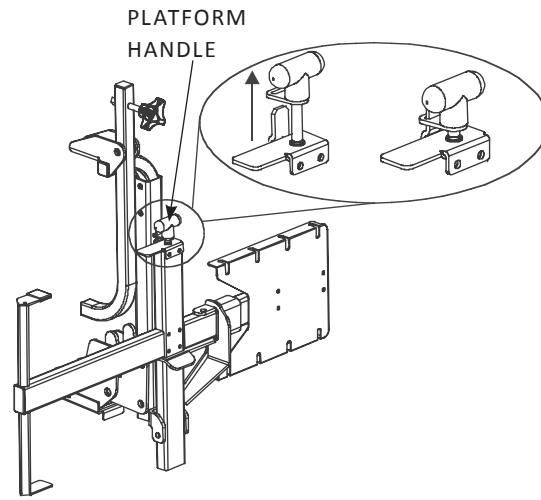

Figure 4-18
7. Pull up on the platform handle and place the keeper slot onto locking tab. *See Figure 4-18.*